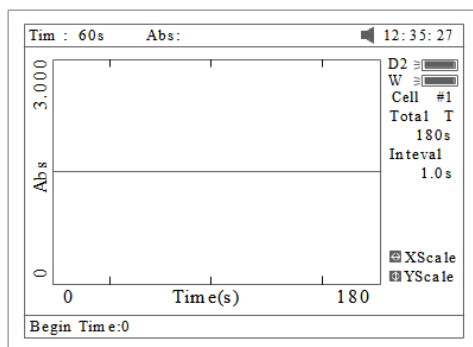
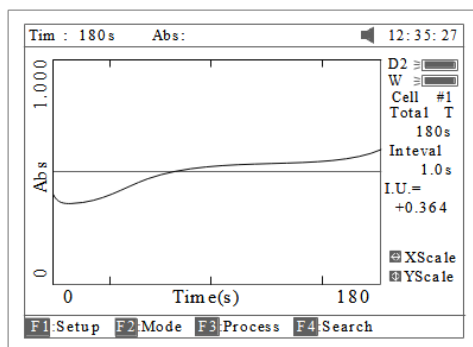

Fig 57
Fig 58
5. Press **【F3】** to process the data, and enter "Begin Time", "End Time" and "Factor" (Fig 57) and the value in I.U. will be calculated and displayed (Fig 58). The average straight line between the Begin Time and End Time will be calculated. The gradient of this line gives the rate of change of $\Delta A/\text{min}$.